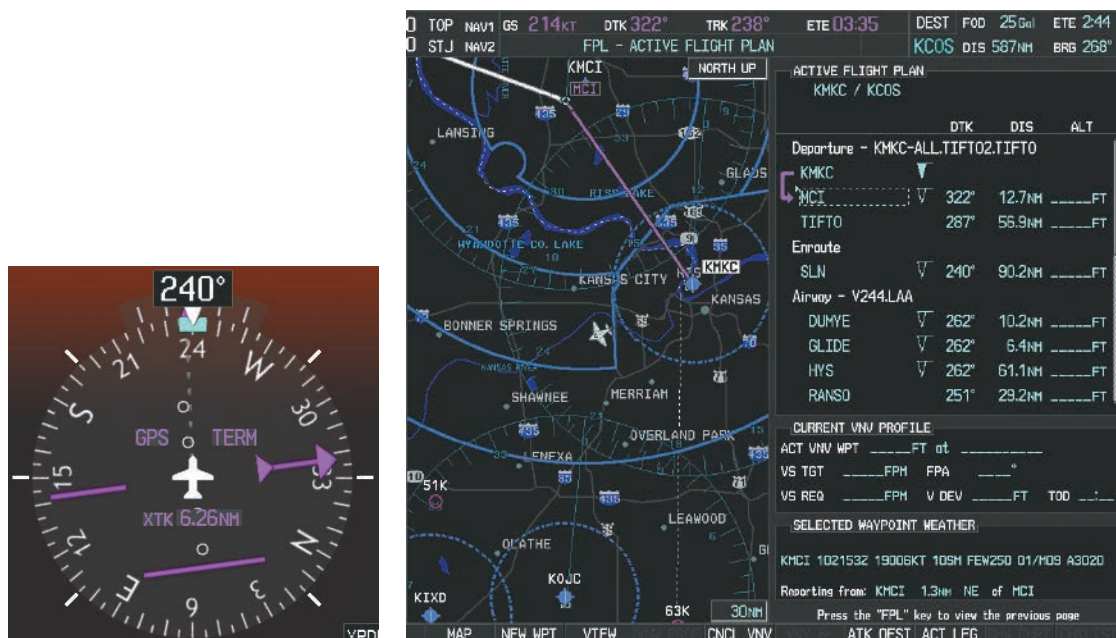

Figure 5-112 Assigned Heading of 240°
- 1) Prior to departure, the TIFTO2 departure, the airways, and the DBRY1 arrival at KCOS are loaded. See the Procedures section for loading departures and arrivals. Note the magenta arrow in Figure 5-112 indicating the active departure leg.
- 2) Figure 5-112 shows the aircraft on the assigned heading of 240°. 'TERM' (Terminal) is the current CDI flight phase displayed on the HSI indicating 1.0 nm CDI scaling.